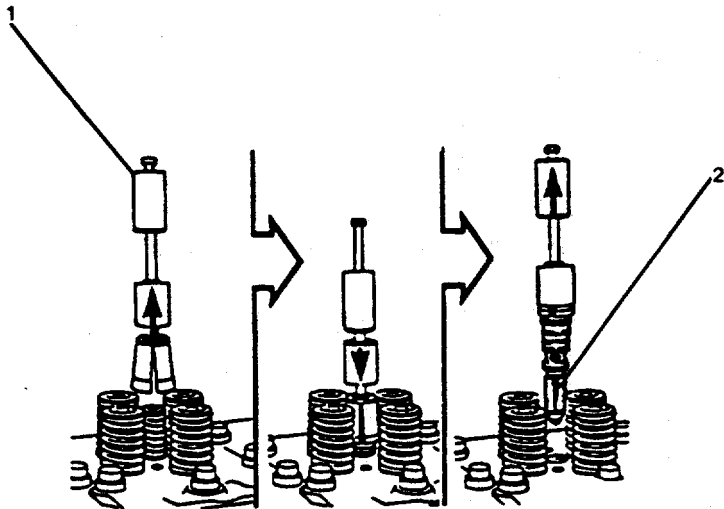

FIGURE 2-50. Injector Removal Tool.
- b. Remove injector damp (2).
- c. Remove injector plunger link (3).
- d. Use injector puller (1, FIG. 2-50) to remove injector (2).